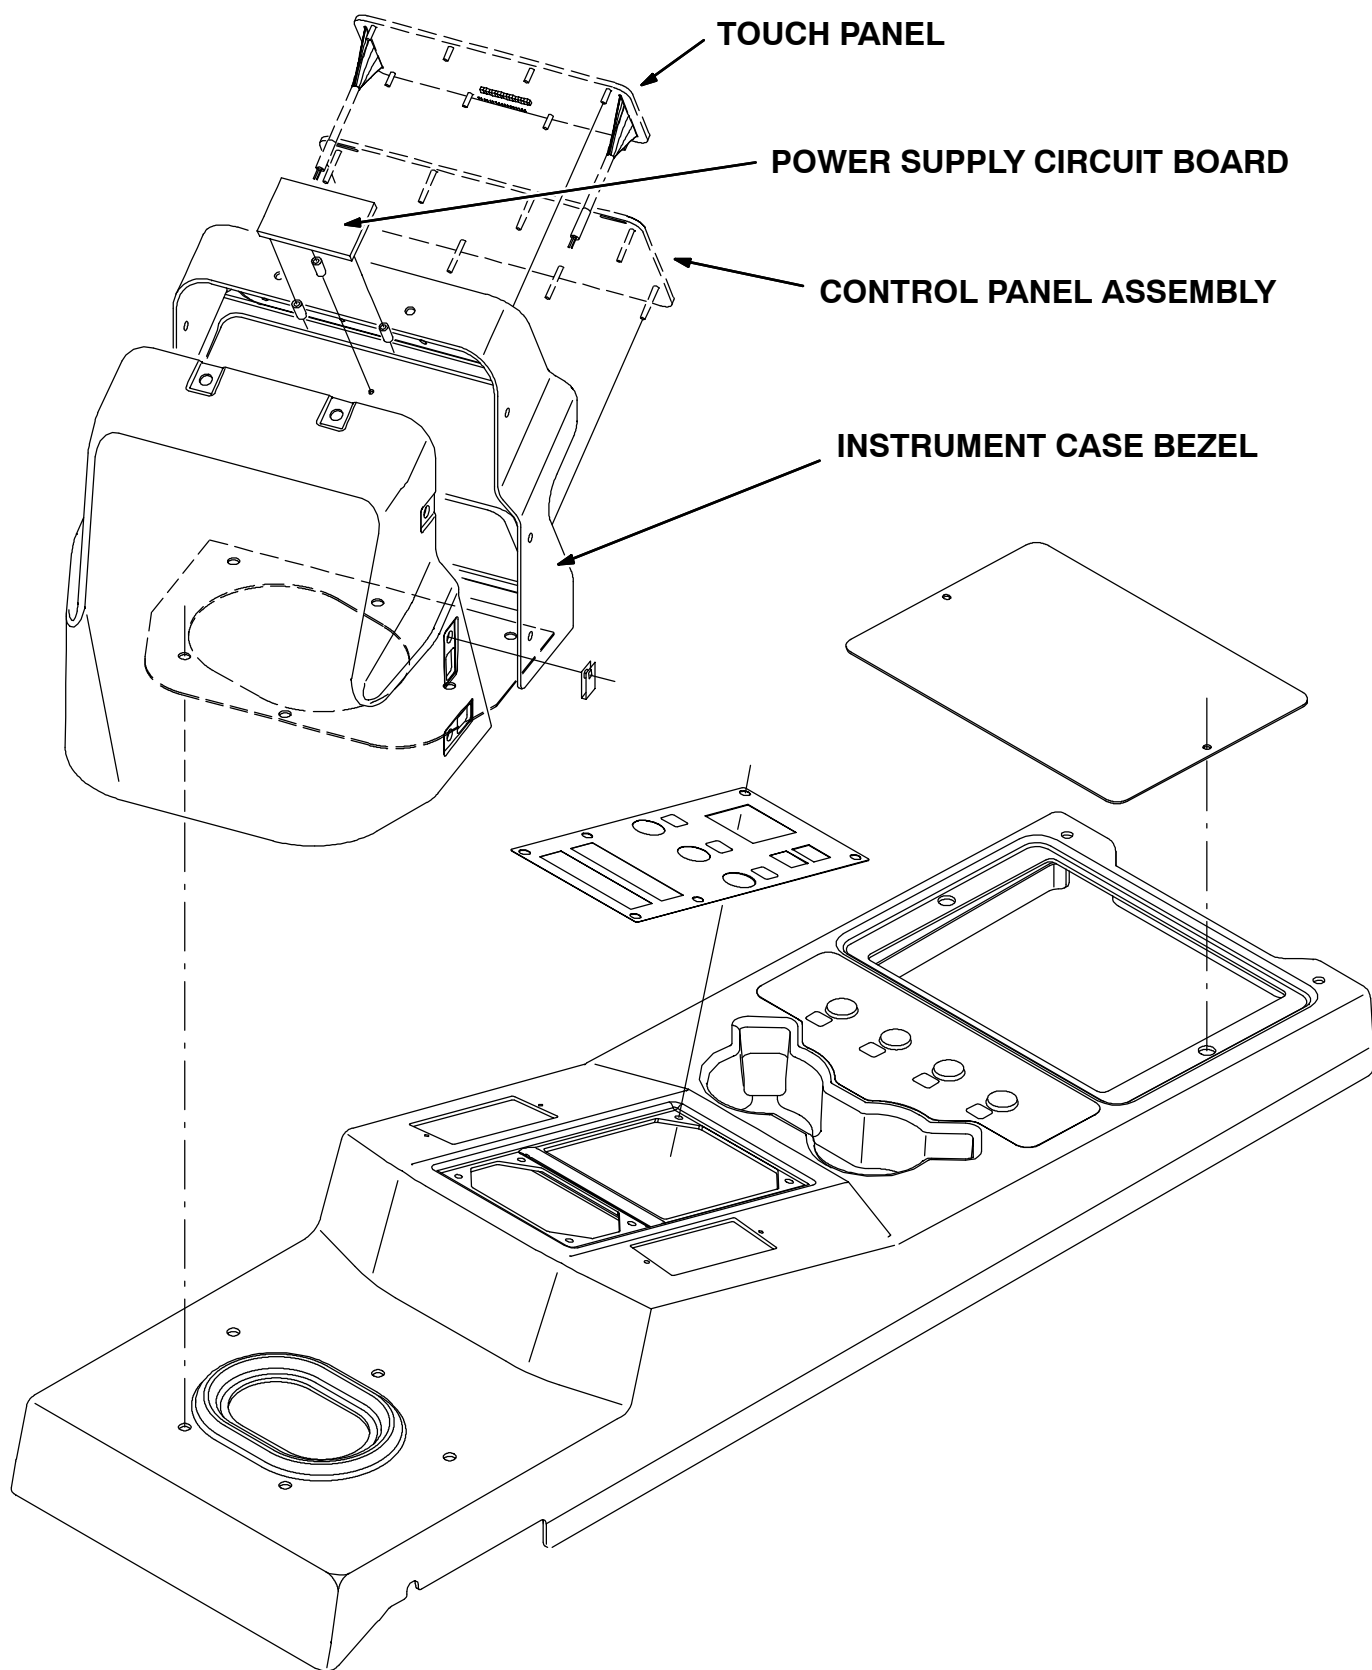

FIG. 1 - CAB CONSOLE
(Refer to FIG. 1 thru 6)
(Refer to FIG. 1 and 4)
1. Remove the eight screws along the sides and top of the instrument shroud, and pull the instrument case bezel out towards you. Set the screws aside for reassembly. (Refer to FIG. 1)